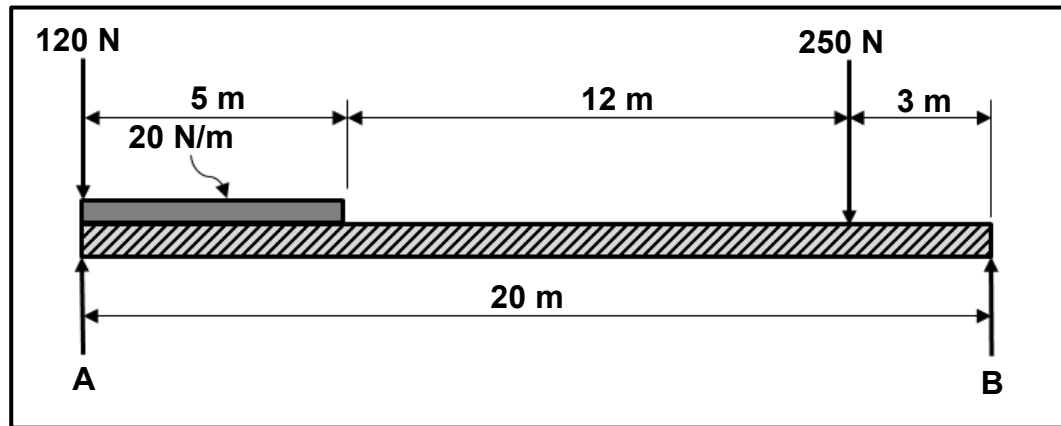

FIGURE 8.2
- 8.2 FIGURE 8.2 below shows a uniform beam that is supported by TWO vertical supports, **A** and **B**. TWO vertical point loads and ONE uniformly distributed load (UDL) are exerted onto the beam.